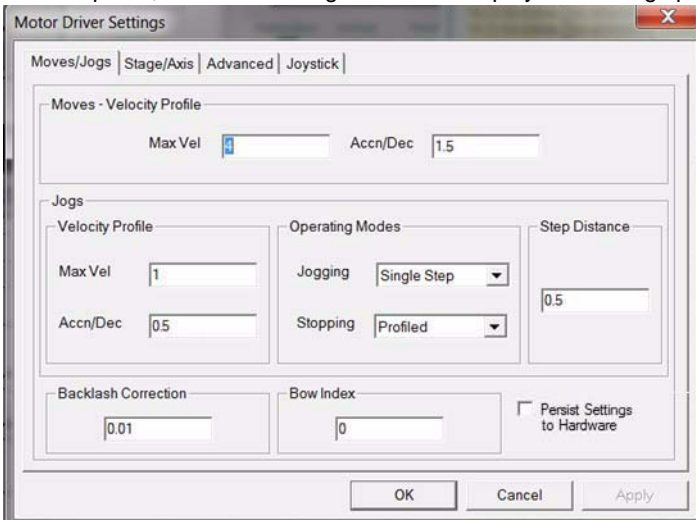

Fig. 4.5 Settings Panel - Move/Jogs Tab
During PC operation, the motor actuators are jogged using the GUI panel arrow keys. There are two jogging modes available, 'Single Step' and 'Continuous'. In 'Single Step' mode, the motor moves by the step size specified in the Step Distance parameter. If the jog key is held down, single step jogging is repeated until the button is released - see Fig. 4.5. In 'Continuous' mode, the motor actuator will accelerate and move at the jog velocity while the button is held down.
- 2) Select the Move/Jogs tab as shown in Fig. 4.5.